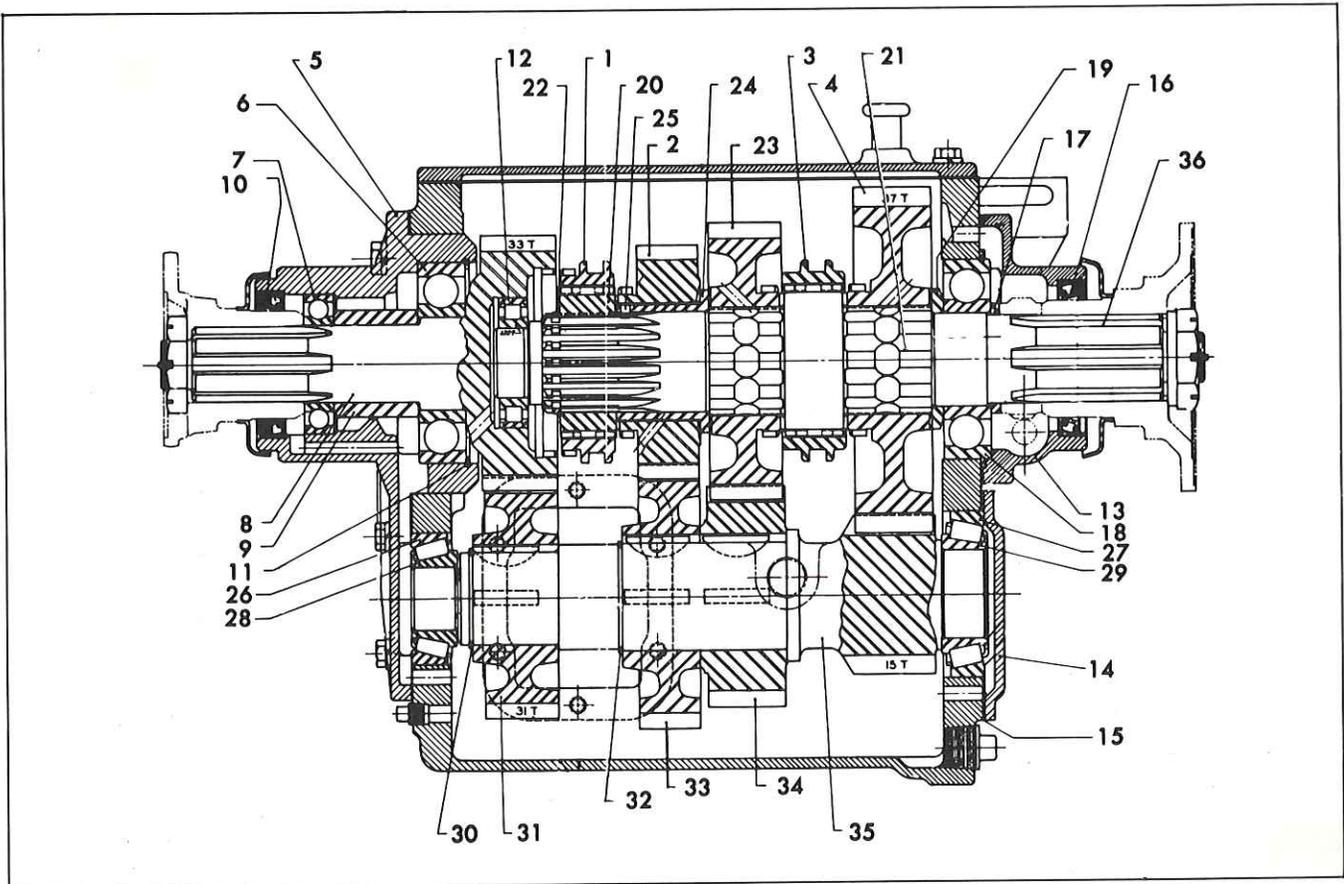

Fig. 8—Transmission Assembly (Cross-Section)
### GEARS AND CASE DISASSEMBLY (Figure 8)
10. Assemble drive gear bearing cap (5), Figure 8, and gasket to case with capscrews in the lower four holes. Torque to 40 lbs. ft.
11. Assemble countershaft rear bearing cap (14) and shim pack (15) to case with capscrews and lockwashers. Torque to 40 lbs. ft.
12. Check bearing preload of countershaft roller bearings. Add or remove shims (15) behind rear bearing cap to secure zero end play without preload. Shaft should roll free to slight drag of 2-3 pounds pull with cord wrapped around 2nd or 4th speed gear.
14. Remove drive gear bearing cap (5), Figure 8.
6. Assemble 3rd-4th speed clutch gear (5) to mainshaft and secure with snap ring (6). Snap ring must be seated in groove of mainshaft and not distorted. Assemble drive gear pocket bearing (12), Figure 8 to front of mainshaft. Since pocket bearing fits tight on mainshaft, use tubing to drive against inner race of bearing.